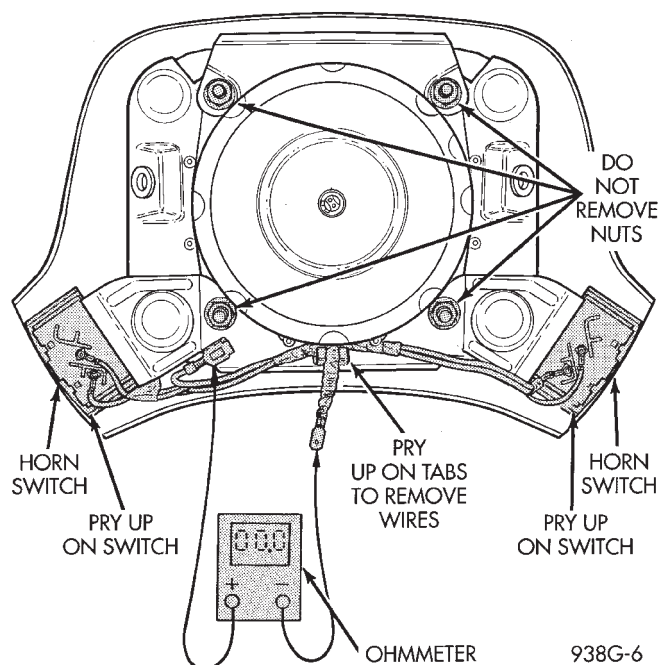

Fig. 3 Horn Switch
- Using ohmmeter, connect one lead to ground wire and the other lead to the positive wire (Fig. 3).